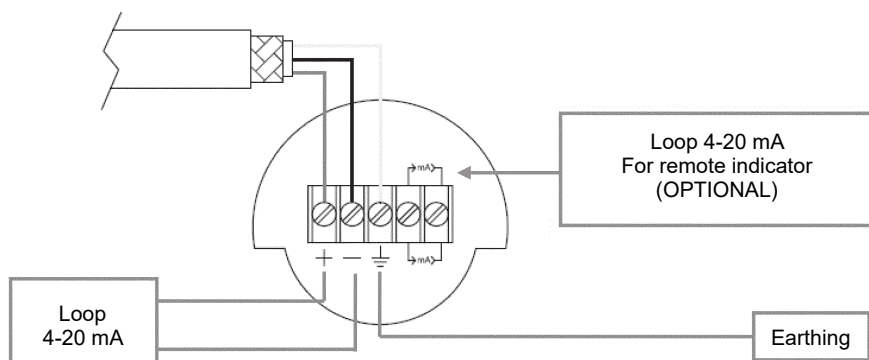

Fig. 4 - Electrical connection of the power cable to the terminal block
Under the rear cap is placed the terminal block reporting the electric polarity (**Fig. 4**). Insert the power supply cable into the enclosure through one of the two threaded openings. Transmitter is protected from accidental inversion of polarity. For a better use is recommended a twisted pair cable (22 AWG min). Avoid placing Transmitter near devices powered in AC or Switching. Connect ground-tap of the Transmitter to the local common earth (PE) as indicated in paragraph Earthing.
In the case where the plant devoid of earthing, it is necessary to connect the earth wire to the terminal block through the cable that carries the signal and the power supply (**Fig. 4**).